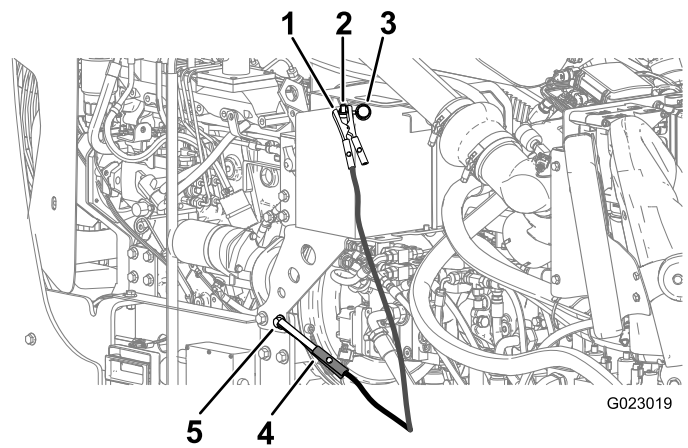

Figure 130
- Remove the cover from the jump post (Figure 130).
- Connect the positive (+) jumper cable to the jump post (Figure 130).
- Connect the negative (-) jumper cable to a ground point, such as an unpainted bolt or chassis member (Figure 130).
- When the engine starts, have the other person disconnect the negative (-) jumper cable from the frame and then disconnect the positive (+) jumper cable (Figure 130).